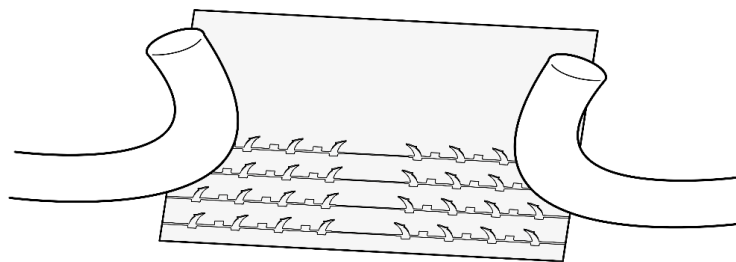

Figure 2
- 8.5 Place Nerve Tape underneath intended repair site **with the microhook side facing upward and the metal columns oriented parallel to the nerves**, as illustrated in Figure 2.